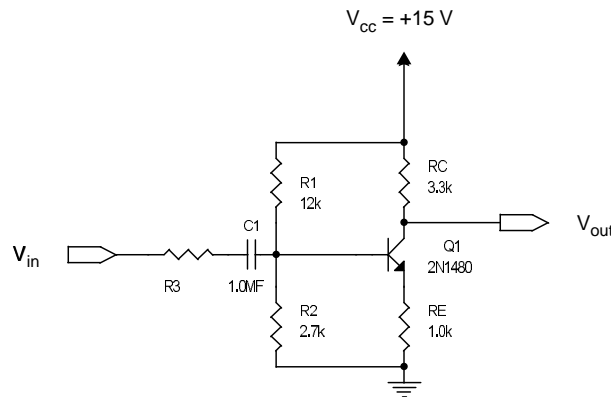

Figure 1: Basic Single Transistor Amplifier
So far we have been concerned only with the properties of the transistor itself. In practical amplifier applications, it is desirable to design a circuit whose properties are predictable, i.e. which don't depend strongly on your accidental choice of a specific transistor. In Fig. 1 we show a very common configuration of base and emitter biasing for the common emitter amplifier configuration. This circuit is reasonably stable against variations in transistor properties (for $\beta = h_{fe}$ ranging from 14 to 40, the Q point stays within 20% of $V_{CE} \simeq 6.5 V$).
5. Next connect the circuit as shown schematically in Fig. 1. Be sure to check the transistor pin-out diagram at the end of the transistor data sheet. (**Transistors** are normally drawn as if you were **looking at the transistor leads from the lead side** while integrated circuits are normally drawn as if you were looking at the pins from